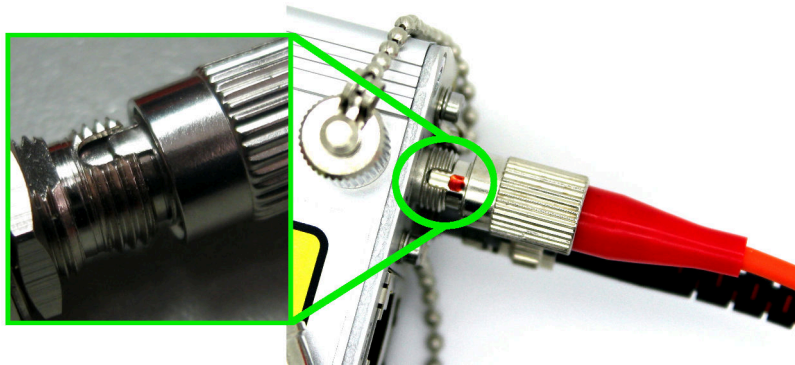

Figure 20: FC fiber connector alignment
5. Plug in the FC laser supply connector (red bend protection) and tighten its nut. Make sure that the connectors key slides into the corresponding notch, Figure 20 for the correct alignment.